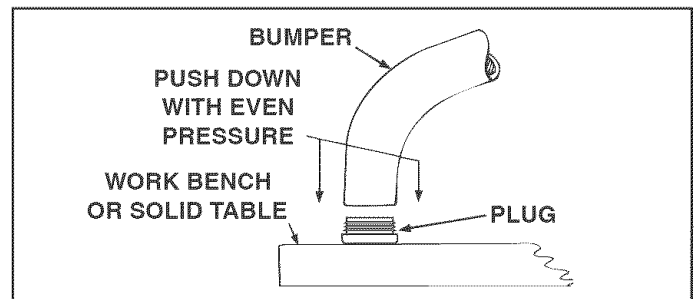

FIGURE 2
STEP 2: (SEE FIGURE 2)
- Place plug (D) on a work bench or solid table and push end of bumper down onto plug. Repeat for all four plugs.